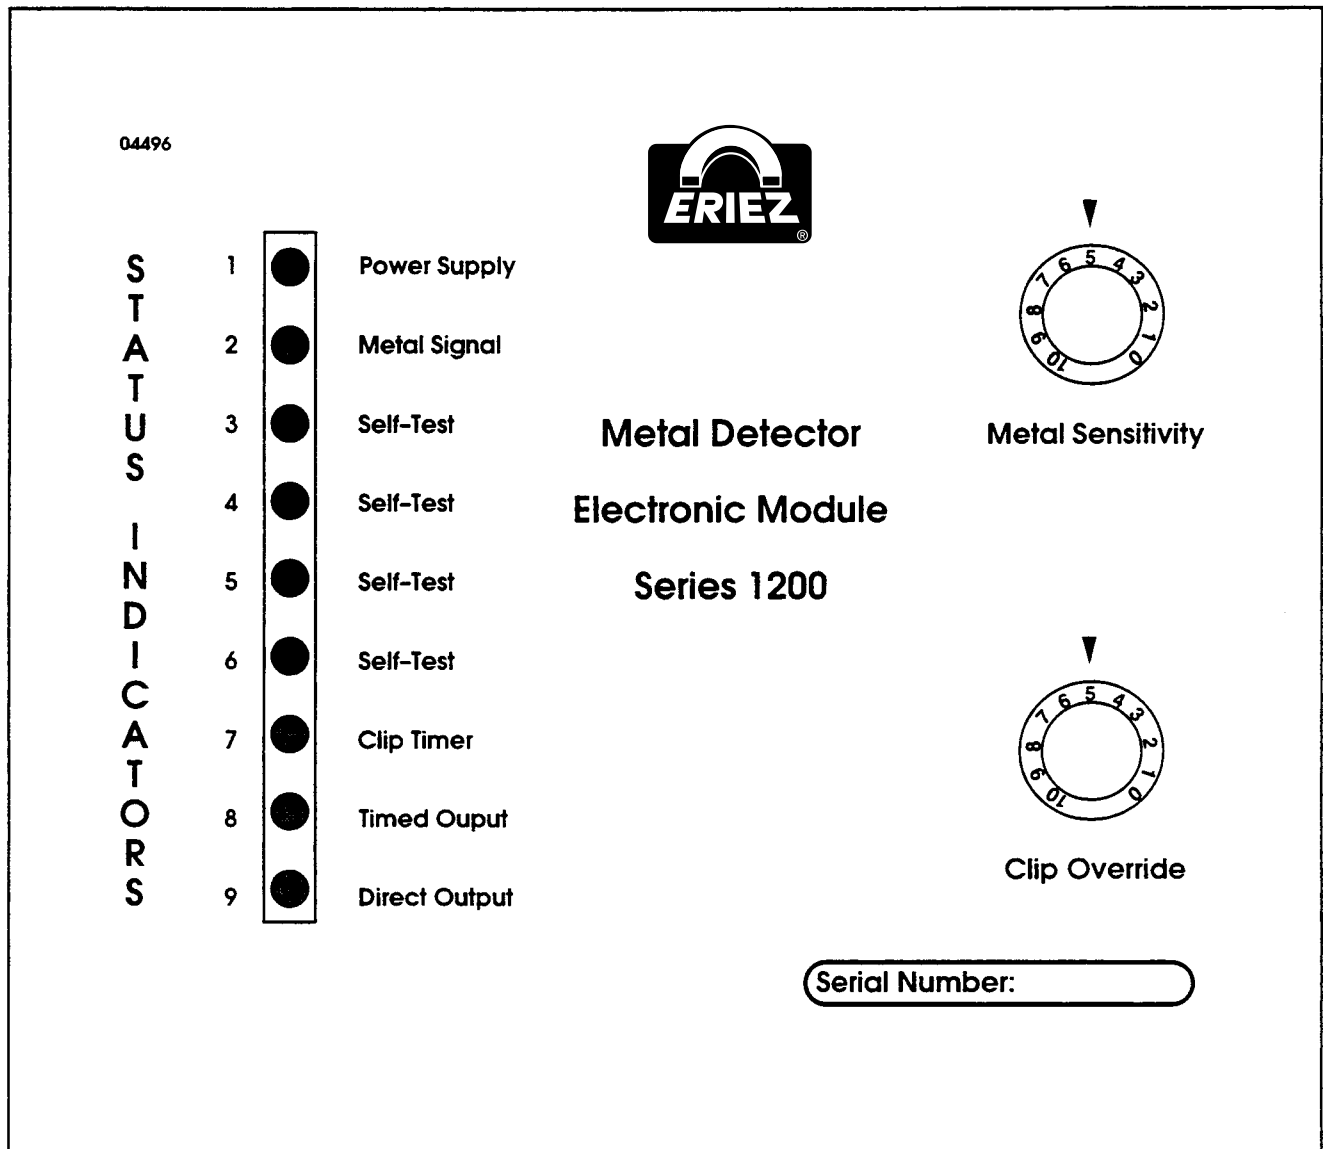

FIGURE 2. ELECTRONIC MODULE
All the electronics and controls for the Detector are contained in two modules, the Interface Module and the Electronic Module shown in Figure 2. The Electronic Module houses the electronic circuitry and components associated with metal signal processing and analysis. Visible on the front panel of the Electronic Module are the metal sensitivity control knob, clip override control knob and L.E.D. status indicators used to monitor the status of the Detector's self-test circuits. By removing the front panel of the module, all of the electronics are exposed for calibration and troubleshooting. All connections for the Electronic Module are made through a 36-pin connector located along the bottom edge of the module. When the modules are in place, this connector mates with a connector on the Interface Module.
- Approximately 5 seconds after power “ON”, the No. 1 Status indicator (power supply located on the front panel of the Electronic Module will light (reference Figure 2). This indicates that the power supply is fully operational and all the electronics are enabled.
- Turn the “Clip Override” control knob fully clockwise to position 10 on the dial. This knob is located on the front panel of the Electronic Module as shown in Figure 2.